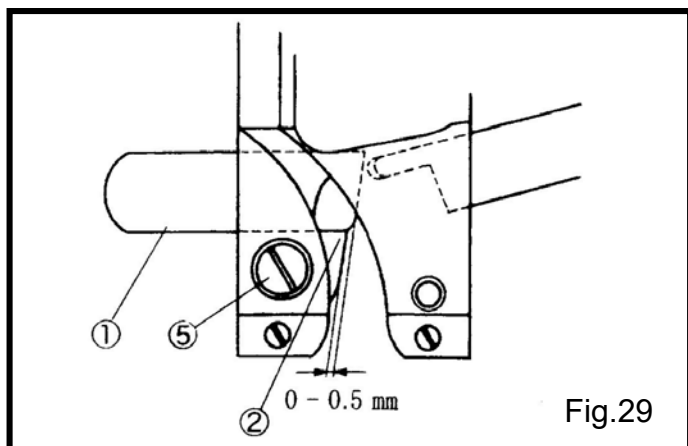

Fig.29
- (1) 底刀①的標準位置要留距離在底刀①尖端和鎖底刀座②之間 0-0.5mm。(Fig.29)
- (3) 放鬆螺絲④和⑤去調整上刀和底刀。(Fig.29, 31)
- (1) For the standard position of the lower knife ①, make the distance between the lower knife ① tip and the lower knife clamp ② to 0-0.5 mm. (Fig. 29)
- (3) Loosen the screws ④ and ⑤ to adjust the lower and upper knives respectively.( Fig.29 , 31)